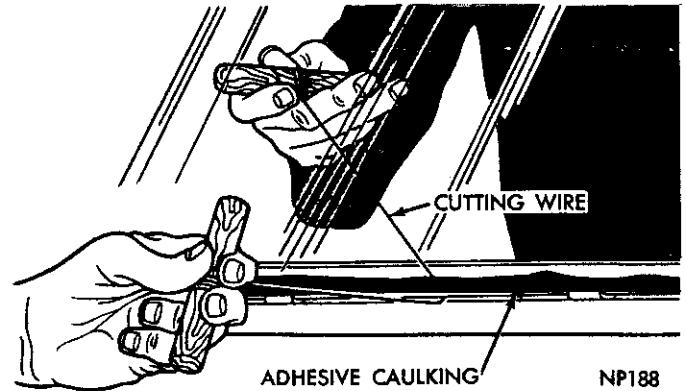

Fig. 7—Cutting Adhesive Caulking
(1) Place protective coverings over rear seat cushion and back, shelf panel or shroud, and adjacent exterior body surfaces.
(2) Remove window exterior mouldings using Tool C-4009 and inner garnish mouldings.
(3) Secure one end of a two foot length of tempered steel wire (.028 gauge max.) to a wooden handle.
(4) Insert other end of wire through adhesive at lower corner of window and secure to another wooden handle.
(5) With an assistant, carefully cut through adhesive material by pulling wire, in a sawing motion, up one side, across top, down opposite side and across bottom (Fig. 7).
(6) With an assistant, remove glass from opening and if original glass is to be reinstalled, place on a protected surface.
(7) All old adhesive should be removed from glass and opening reveal using a putty knife or razor blade. **DO NOT use an oil base solvent to remove adhesive.**
(8) Using steel wool, remove loose flakes of ad-